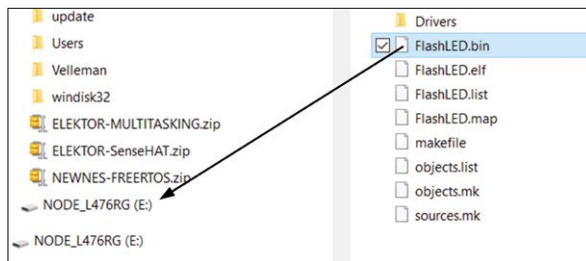

Figure 5.14: Drag and drop the binary file.
- Now, make sure the development board is plugged into the USB port of your PC. Drag the binary file and drop it to drive **NODE\_L476RG** as shown in Figure 5.14. You should see the communication LED flashing while the executable file is uploaded to the MCU of the development board.